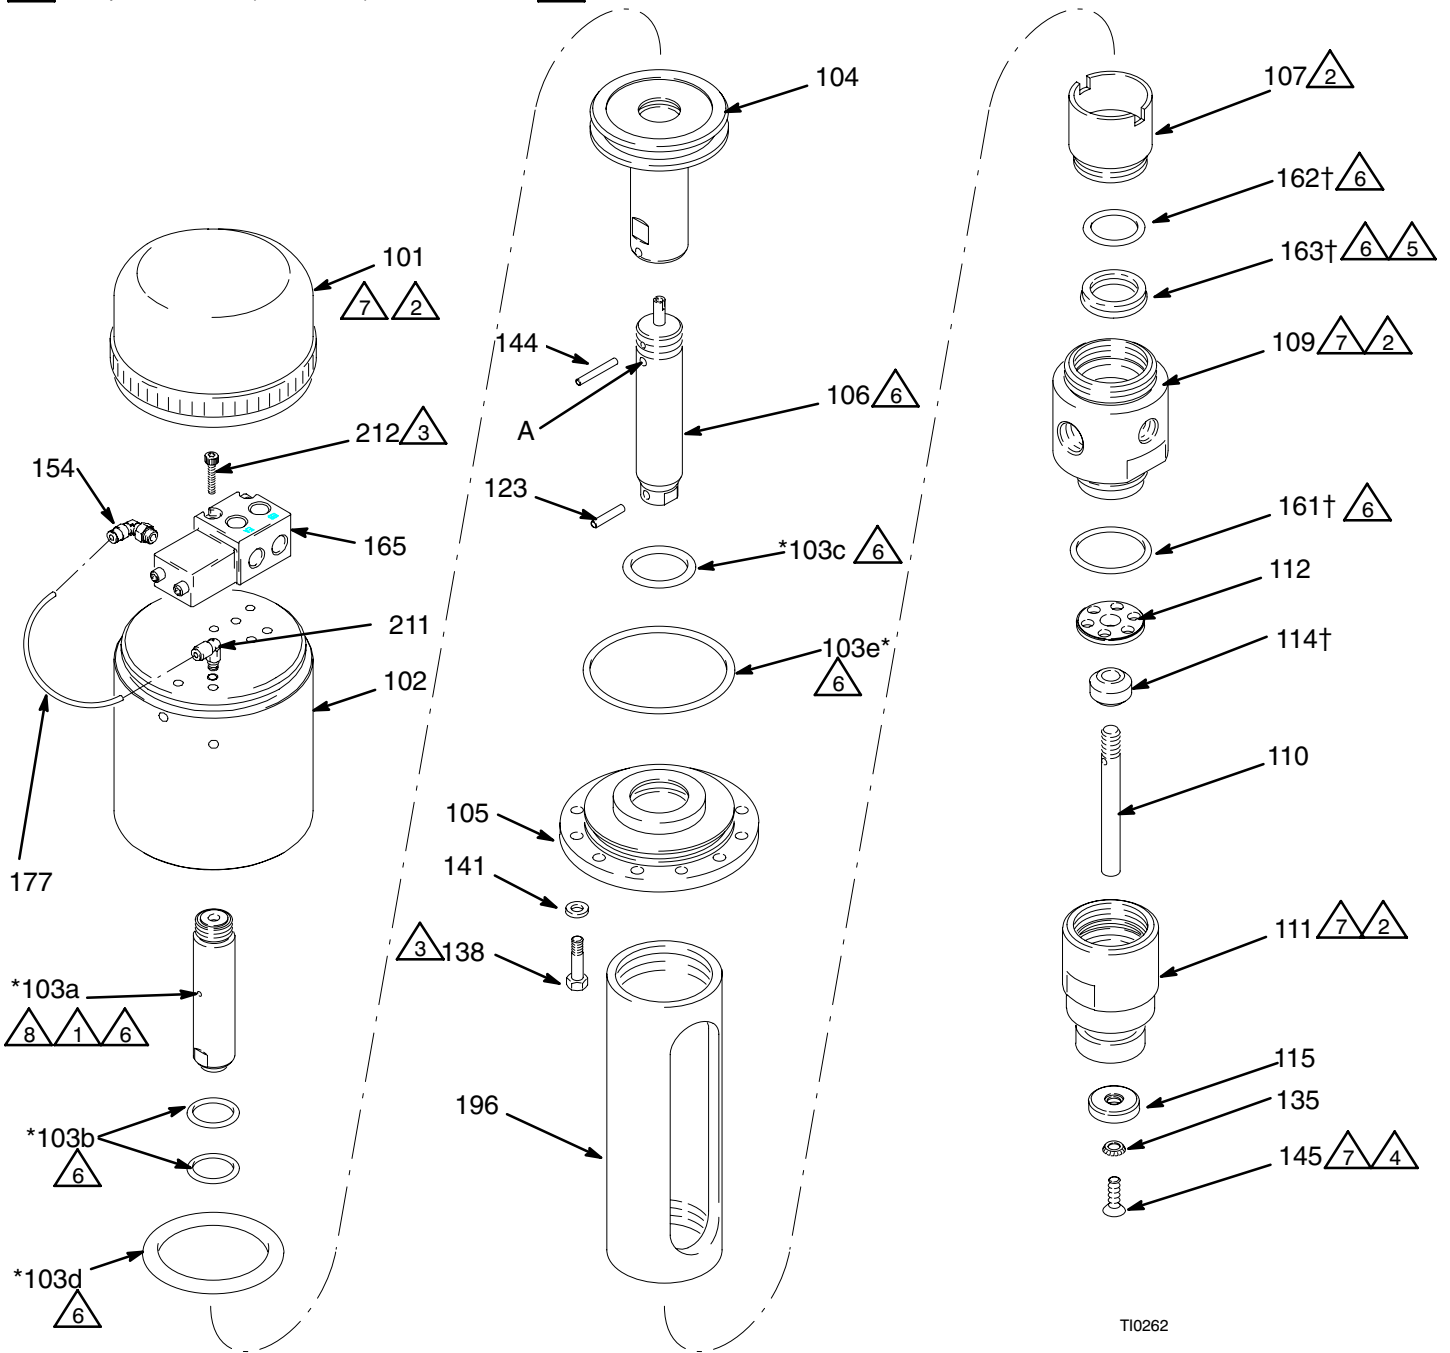

Fig. 4
Disassembly (See Fig. 4)
2. Screw the priming piston rod (110) into the fluid piston (106) until the holes align. Install the pin (123) in the holes. Carefully slide the assembled piston and rod down through the wet-cup and fluid housing.
3. Place the intake valve (114†) onto the seat of the intake valve housing (111). Insert the valve stop (112) into the intake valve housing, with the flat side facing up. Be sure the valve stop (112) seats on the lip of the intake housing. Lubricate the o-ring (161†). Bend it into a kidney shape, then carefully push it into the inner groove of the intake valve housing (111), to avoid damaging it.
4. Apply thread lubricant to the lower threads of the fluid housing (109). Bring the fluid housing and intake valve housing (111) together, making sure the priming piston rod (110) passes straight through the valve stop (112) and intake valve (114) installed in the housing (111) onto the fluid housing (109), then torque to 35–37 N•m (298–314 in-lb).
5. Apply lubricant to the threads of the screw (145). Hold the fluid piston (106) steady by inserting a small screwdriver or punch into the 4mm diameter hole (A). Install the priming piston (115) onto the end of the priming piston rod (110), using the screw (145) and lockwasher (135). Torque to 1.7–2.3 N•m (14–20 in-lb).
6. Apply lubricant to the top threads of the fluid housing (109). Screw the air motor coupling (105) onto the fluid housing, and torque to 35–37 N•m (298–314 in-lb).
7. Install the large o-ring (103e*) on the outer diameter of the air motor coupling (105), and the small o-ring (103c*) in the groove on the inner diameter of the coupling.
8. Install the two small o-rings (103b*) in the grooves of the inner diameter of the air motor piston (104). lower the piston through the air motor coupling (105) so it engages the threads of the fluid piston (106). Screw the air motor piston onto the fluid piston, aligning the holes to obtain maximum threads engagement. Insert the pin (144) in the holes.
9. Install the large o-ring (103d*) on the outer diameter of the air motor piston (104).
10. Apply adhesive to the threads of the housing assembly (103a*) and screw the assembly into the air motor cylinder (102). Torque to 8–10 N•m (72–88 in-lb). Apply lubricant to the outer diameter of the air valve housing assembly (103a) and the inner diameter of the air motor cylinder (102).
11. Lower the air motor cylinder (102) onto the air motor coupling (105). Align the air inlet with the fluid outlet, as was noted in step 1 under **Disassembly**. The air valve housing assembly (103a) will slide down into the air motor piston (104). Secure the cylinder to the coupling with three screws (138) and washers (141). Torque the screws to 2–4 N•m (17–33 in-lb).
12. **If it was necessary to replace the air valve (165)** align and install the new air valve on the top of the air motor cylinder (102), as shown in Fig. 4. Install the two mounting screws and washers and torque to 2–4 N•m (17–33 in-lb). Lubricate the upper threads of the air motor cylinder (102). Screw the cylinder cap (101) onto the cylinder.
13. Lower the pump through the mounting bracket (33). Orient it in the correct direction and secure to the bracket using the three screws (138) and washers (141). Torque the screws to 2–4 N•m (17–33 in-lb). Reinstall the fluid outlet fitting (28).
14. Reinstall the wiper plate assembly on the fluid intake housing (111). Secure with the two cap-screws (302). Reconnect all hoses and return the pump to service.